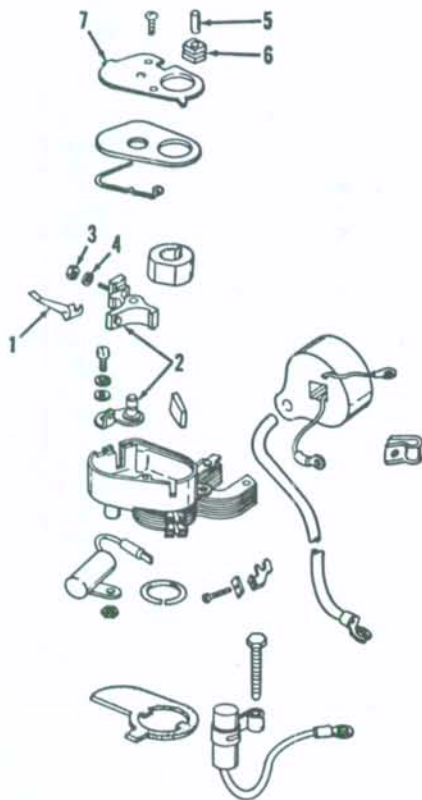

Fig. T1-9—Overspeed mechanism used with centrifugal governor on some models. Refer to text.
GOVERNED MODELS. Major speed adjustment is made by loosening the retaining screw (A—Fig. T1-8) and moving governor bellcrank assembly toward or away from flywheel as shown. Make minor speed adjustments by bending throttle link as shown at (B). NOTE: Remove link before bending, to avoid damage to remainder of governor linkage. A speed limiting device is incorporated into the magneto breaker box on most governed models. This unit grounds the magneto at 4500-4700 rpm, thus limiting the top speed. Refer to Fig. T1-9 for an exploded view of breaker box with overspeed mechanism. Plunger (5) must be installed with rounded end up if it is removed. When throttle is in wide-open position, the thrust block on throttle bellcrank must clear breaker box by not more than $\frac{1}{8}$ -inch nor less than $\frac{3}{32}$ -inch.